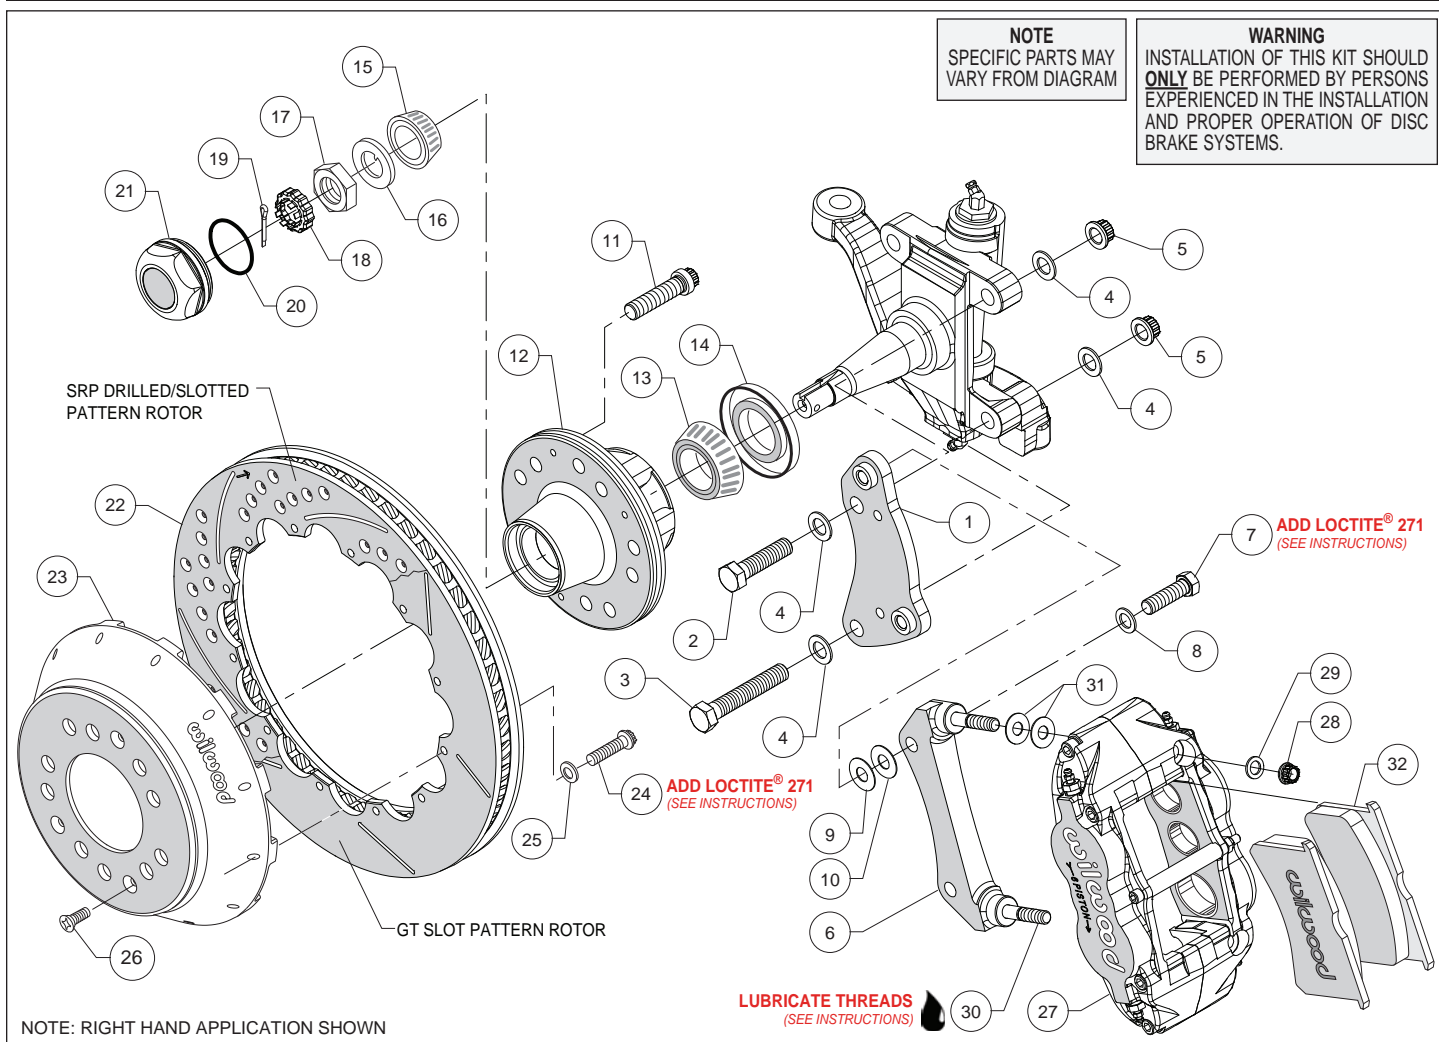
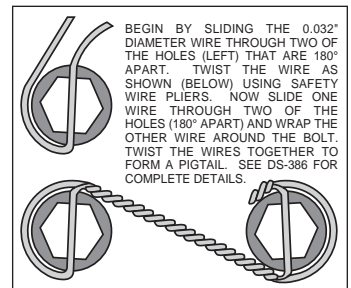
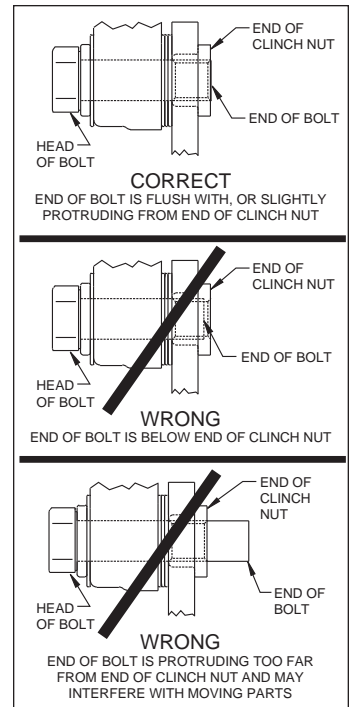

Figure 1. Typical Installation Configuration
Figure 3. Safety Wire Diagram
Figure 4. Clinch Nut Engagement Diagram
Assembly Instructions (numbers in parenthesis refer to the parts list, on the preceding page and Figure 1). **CAUTION:** All mounting bolts must fully engage clinch nuts. Be sure to check that all bolts are either flush or protruding through flanged side of clinch nut after shimming, Figure 4.
- Orient the spindle bracket (1) as shown in Figure 1 and Photo 1, and install using bolts (2 and 3), washers (4) and nuts (5). Temporarily tighten the mounting bolts. Ensure that the flanged heads of the clinch nuts in the bracket are facing outboard, Photo 1. **NOTE:** The bracket must fit squarely against the mount bosses on the upright. Inspect for interference from casting irregularities, machining ridges, burrs, etc. Torque lock nuts (5) to 65 ft-lb.
- The caliper mount radial bracket (6) should initially be installed with clean, dry threads on the mounting bolts. Orient the bracket as shown in Figure 1, and Photo 2. Install onto the spindle bracket using bolts (7), and washers (8). Initially place one .030 thick shims (9) on each bolt between the radial and spindle brackets, Figure 1. Temporarily tighten the mounting bolts. Later, after the caliper alignment has been checked, the mount bolts will be secured using red *Loctite*® 271.
- Install wheel studs (11) into the hub (12), Photo 3. Torque to 77 ft-lb. **NOTE:** *There are two five lug patterns in the hub (5 x 4.50 and 5 x 4.75).* Ensure the correct hub stud pattern is being used to fit the wheel application.
- Pack the large inner bearing cone (13) with high temperature disc brake bearing grease (available from your local auto parts store) and install into the backside of the hub (12), Photo 4.
- Install the grease seal (14) by pressing into the backside of the hub (12), flush with the end of the hub, Photo 5.
- Pack the small outer bearing cone (15) with high temperature disc brake bearing grease and install into the front side of the hub (12), Photo 6. Slide the hub assembly onto the spindle. Secure using spindle washer (16) and spindle nut (17). Adjust bearings per OEM specifications. Install spindle nut retainer (18) and cotter pin (19), Photo 7.
- Screw dust cap (21) into hub (12), Photo 8. Friction created by the o-ring (20) on the dust cap keeps it from unscrewing. **NOTE:** *The O.D. of the existing OEM spindle washer may be larger than the I.D. of the dust cap not allowing it to seat against the hub face. Therefore, use the spindle washer (16) supplied with the kit instead of the OEM washer.*
- Orient the rotor (22) and the hat (23) as shown in Figure 1 and Photo 9. Attach rotor to hat using bolts (24) and washers (25). Using an alternating sequence, apply red *Loctite*[®] 271 to the threads, and torque to 155 **in-lbs**. For an added measure of security, the bolts may be safety wired using standard 0.032 inch diameter stainless steel safety wire as shown in Figure 3. Refer to Wilwood's data sheet DS-386 (available at www.wilwood.com/Pdf/DataSheets/ds386.pdf) for complete safety wire installation instructions.
- Slide the hat/rotor assembly (23/22) onto the hub (12) taking care to align the small countersunk holes in the hat with the small threaded holes in the hub, Photo 10. **NOTE:** *The hat must fit flush against the hub face or excessive rotor run out may result.* Install three flat head screws (26) through the small holes in the hat, and torque to 85 **in-lb**.
- **NOTE:** *This kit contains distinct right and left hand calipers that must be mounted in a specific direction, as described below.* Lubricate the caliper mounting studs (30) with lightweight oil. Initially place two .035" thick shims (31) on each stud between the caliper and the bracket, as shown in Figure 1 and Photo 11. Mount the caliper (27) onto the bracket (6) using lock nuts (28) and washers (29), Figure 1. Ensure that the caliper is mounted so the largest pistons are at the rotor exit end of the caliper, in relation to the direction of rotor rotation. Temporarily tighten the lock nuts and view the rotor through the top opening of the caliper. The rotor should be centered in the caliper, Photo 12. If not, adjust by adding or subtracting shims (9 and/or 10) between the spindle bracket (1) and the caliper mount bracket (6). Always